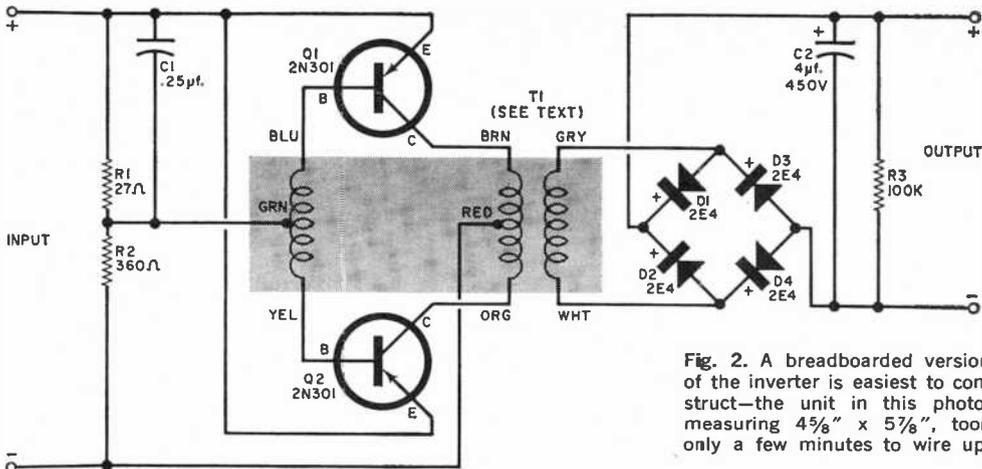
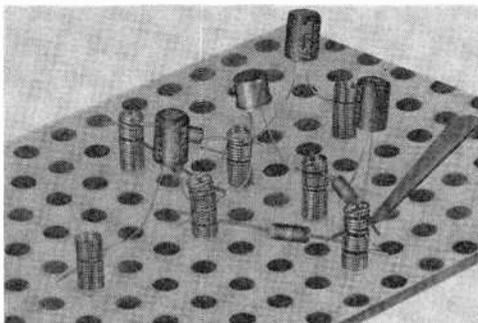

Fig. 1. Schematic diagram of inverter. See next page for circuit of optional hash filter.
Fig. 2. Looking for an easy way to "breadboard" your semiconductor circuits? This is a typical circuit assembled from a Sheatz Electrode Co. kit.
Fig. 2. A breadboarded version of the inverter is easiest to construct—the unit in this photo, measuring  $4\frac{5}{8}$ " x  $5\frac{7}{8}$ ", took only a few minutes to wire up.
**Construction.** The wiring is extremely simple and not at all critical in the "sure-fire" circuit shown in Fig. 1. Although Fig. 2 shows most of the connections for a "breadboard" construction, the type of mounting is pretty much up to you. For example, Fig. 3 pictures the circuit "packaged" into a unit approximately 3" x 3" x 1", with all components except the transistors "potted" in an epoxy resin.
FM stereo multiplex tuner (see Fig. 1). With an audiophile net price of \$179.50, the instrument, Model FM-15MX, is the same size as the S-15, measuring approximately 3" x 10" x 8½". A clue to its cool operation is given by its rated power consumption of only ¼ *watts*—less than one-tenth that of comparable tube-operated tuners!
Fig 1. Transis-Tronics' Model FM-15MX FM stereo tuner draws astoundingly little power from the a.c. line, thanks to its completely transistorized circuitry. A perfect match for the company's Model S-15 all-transistor stereo amplifier, the FM-15MX uses 20 transistors and 9 diodes, and features its own built-in regulated power supply.
When "breadboarding" circuits using semiconductor devices, it's generally a good idea to try to minimize the number of times that a component must be soldered in place (excessive heat can ruin transistors and diodes). One useful technique is illustrated in Fig. 2—the use of coil spring connectors as terminal points. They are mounted as needed on a perforated board, with component connections made by simply slipping the leads between individual spring coils. No soldering is required, and parts and connections may be changed easily as often as necessary.